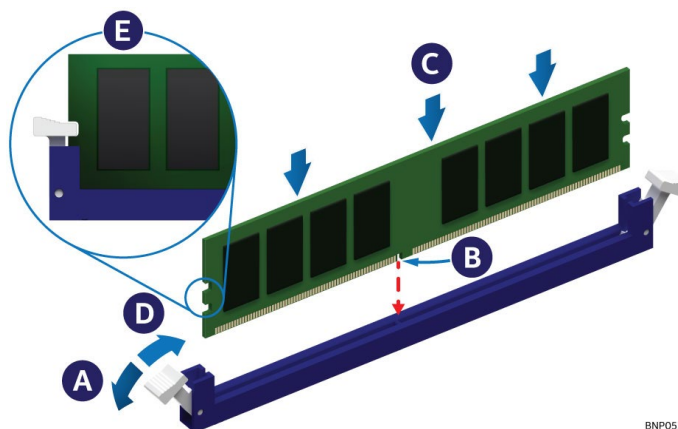

Figure 25. Memory Module Installation
1. Set all four anti-tilt wires on the heat sink to the inward position (see Letter A Figure 25).